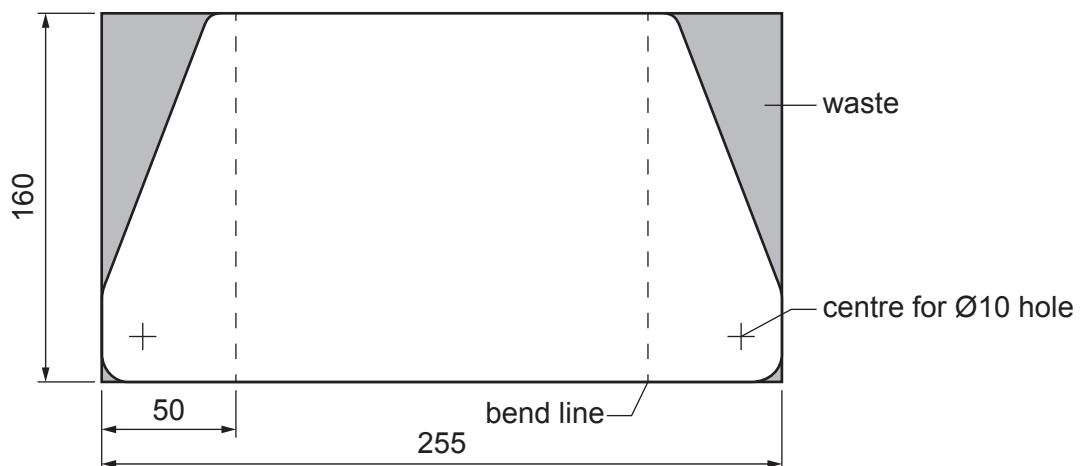

Fig. 12.2
- (b) Fig. 12.2 shows the development (net) of the base marked out on a sheet of acrylic.
(ii) Use sketches and notes to show how the development (net) shown in Fig. 12.2 could be bent to form the base of the adjustable stand when made from stainless steel. Name all the tools and equipment used.